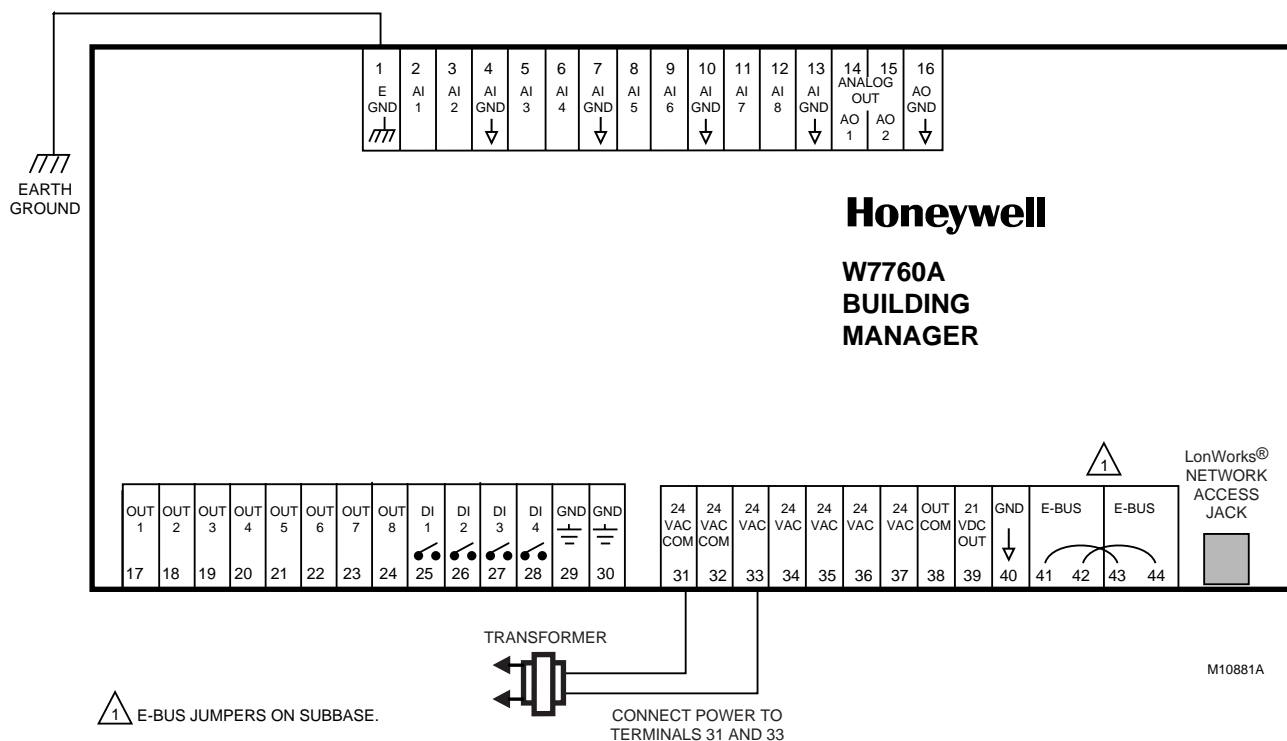
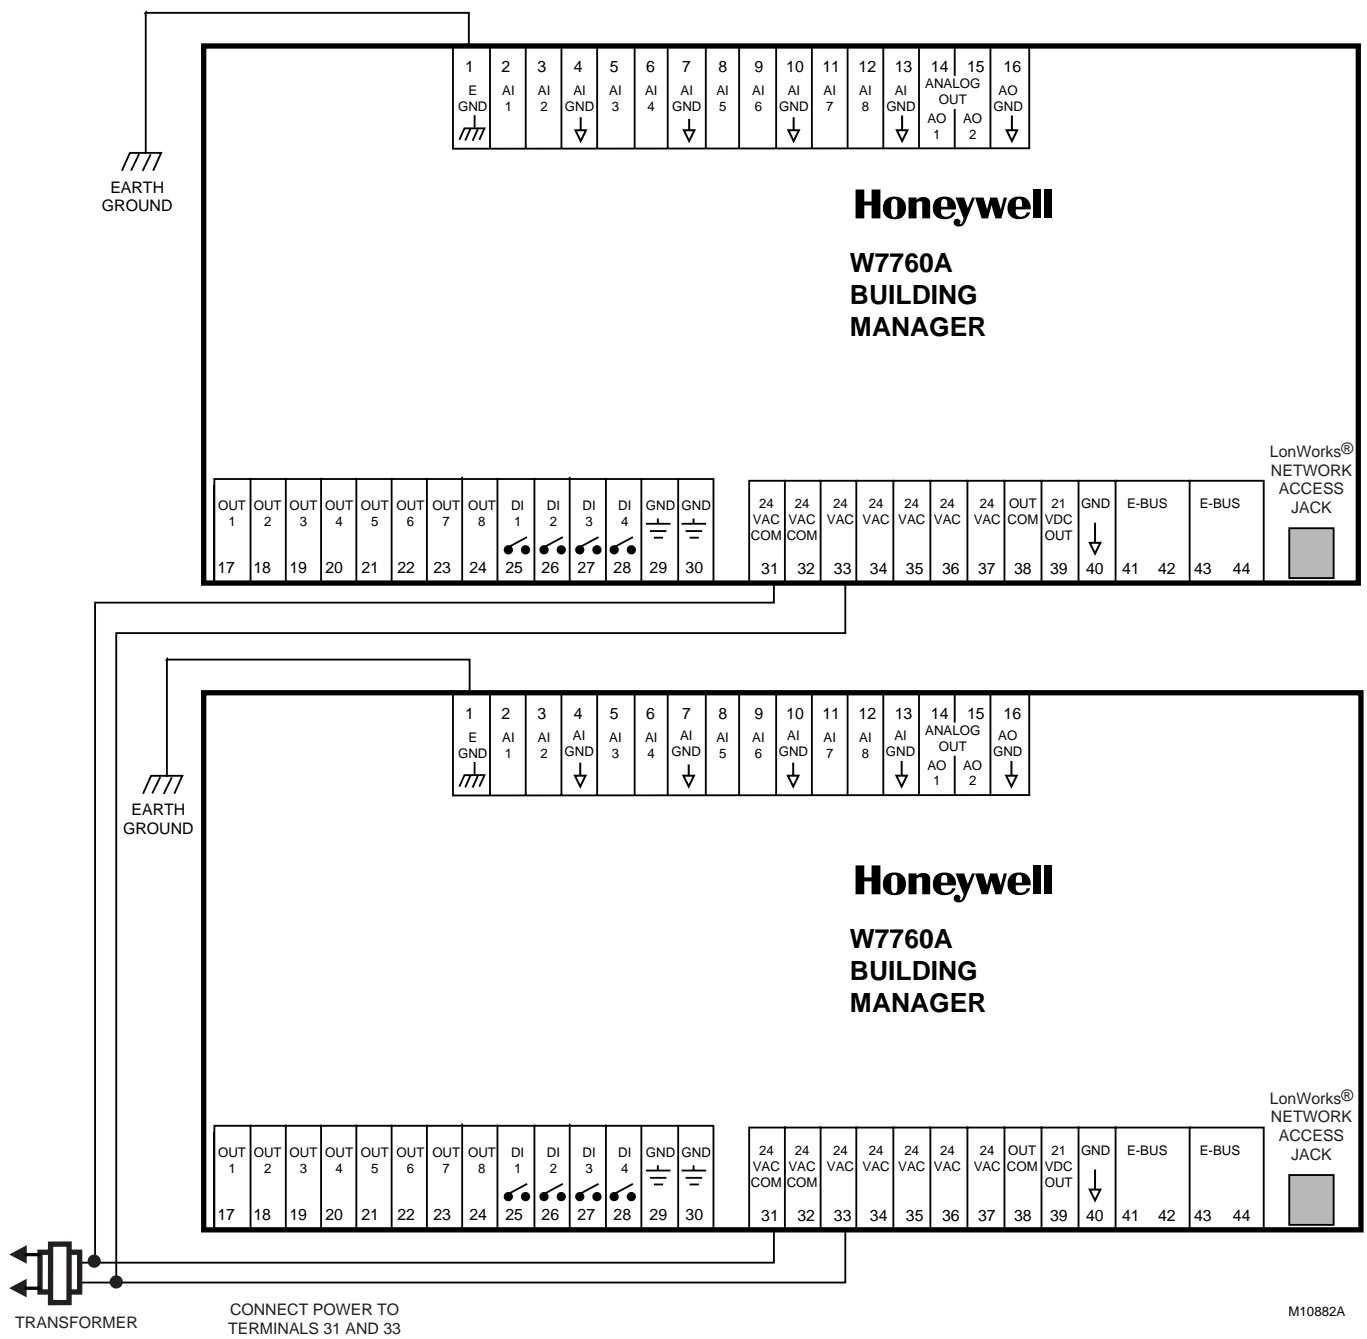

Fig. 27. Power wiring details for one W7760A per transformer.
Fig. 28. Power wiring details for two W7760s per transformer.
Connect the LonWorks® Bus cable to the W7760A communication terminals 41 and 42 or 43 and 44. For daisy chain wiring, see Fig. 27 note 1.
NOTE: If terminals 41 and 42 on the LonWorks® Bus are used as inputs and 43 and 44 are used as outputs (see Fig. 30) and the snap-on cover/electronics assembly is removed from the subbase, then this causes the LonWorks® Bus to have a break in it. To prevent the break from occurring, attach jumpers as shown in Fig. 27 note 1.
The Excel 15 System example requires 43.9 VA of peak power; therefore, a 75 VA AT88A Transformer could be used to power one Excel 15 Systems of this type, or a 100 VA AT92A Transformer could be used to power two of these Building Managers and meet NEC Class 2 restrictions (no greater than 100 VA). See Fig. 27 and 28 for illustrations of power wiring details. See Table 18 for VA ratings of various devices.
Each W7760A requires 24 Vac power from an energy-limited Class II Power Source. To conform to Class II restrictions (U.S. only), transformers must not be larger than 100 VA. A single transformer can power more than one W7760A Controller. Fig. 27 shows power wiring details for a single device and Fig. 28 shows multiple devices using one transformer.
- For multiple controllers operating from a single transformer, the same side of the transformer secondary must be connected to the same power input terminal in each device. The earth ground terminal (W7760A Terminal 1) must be connected to a verified earth ground for each controller in the group, see Fig. 27 and 28. Controller configurations are not necessarily limited to two devices, but the total power draw including accessories cannot exceed 100 VA when powered by the same transformer (U.S. only).
- Keep the earth ground connection (W7760A Terminal 1) wire run as short as possible. Refer to Fig. 27 and 28.
- Do *not* connect earth ground to W7760A analog or digital ground terminals (W7760A Terminals 4, 7, 10, 13, and 16, Terminals 29 and 30, and Terminal 40). Refer to Fig. 27 and 28.